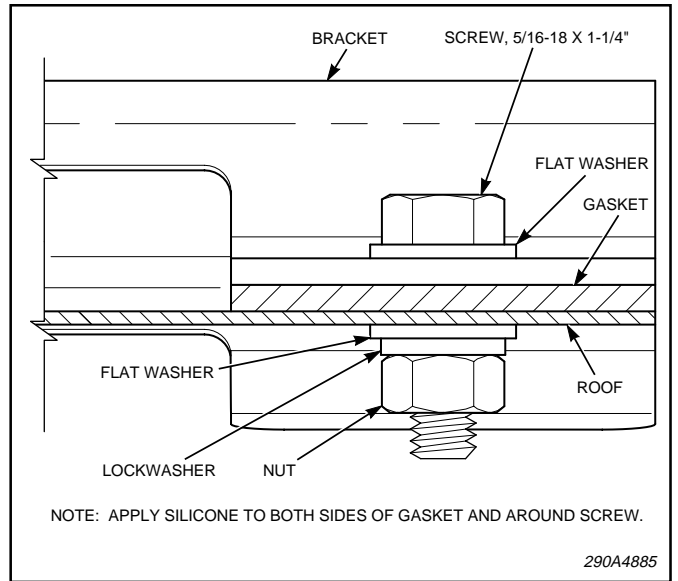

Figure 6.
8. See figure 6. Mount each mounting foot/ bracket assembly to the roof. Use a gasket, screw, nut and washers at each bolt location. Seal the gaskets using silicone sealant.